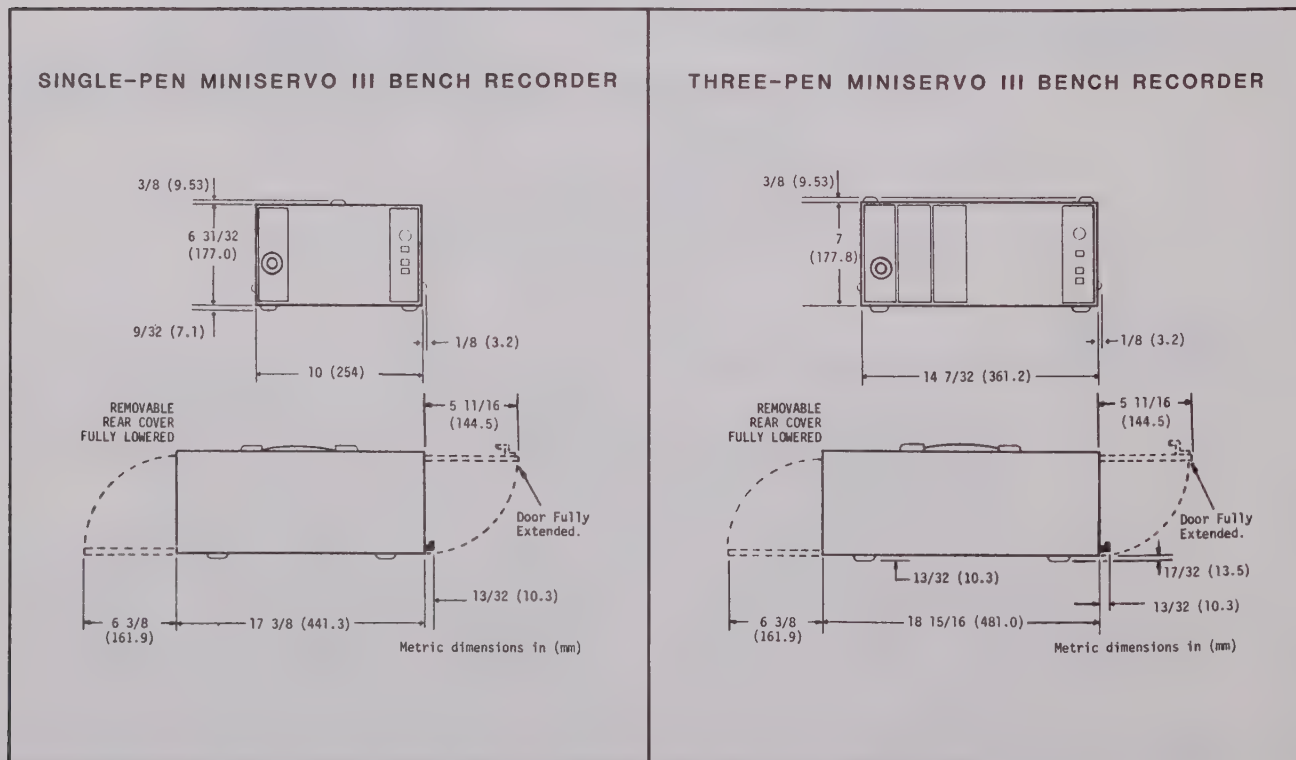

Figure 2-1. Dimensional Diagrams for Power Recorders with NEMA II Case Designs.
Overall Size	See dimensional diagram in Figure 2-1.
a. This recording instrument has been designed primarily for portable and bench-top applications and, therefore, no special installation procedures are required. Case dimensions are shown in Figure 2.1.